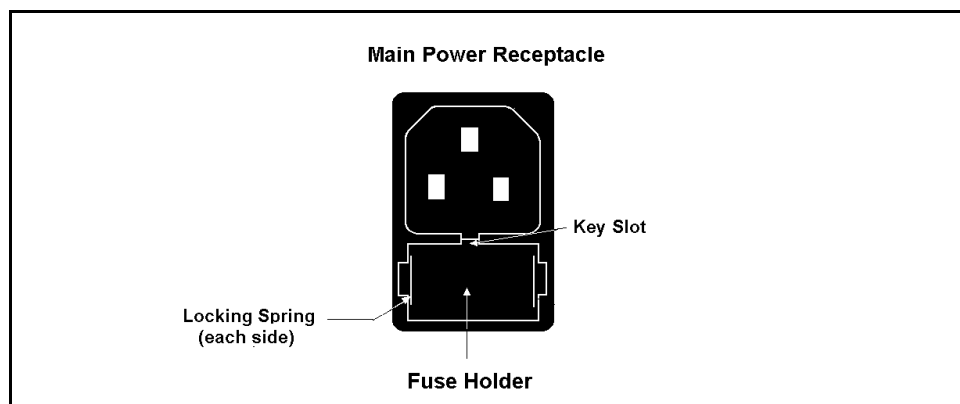

Figure 5-4. Replacing the AC Fuses
2. The fuse holder is part of the main power receptacle on the rear panel (see Figure 5-4). A recessed lock is located on each side of the fuse holder. Use a small screwdriver or your fingernail to push each lock toward the center to release it. The fuse holder will pop out approximately  $\frac{1}{16}$ -inch when the lock releases. When both locks are released, pull the fuse holder straight out of its compartment.